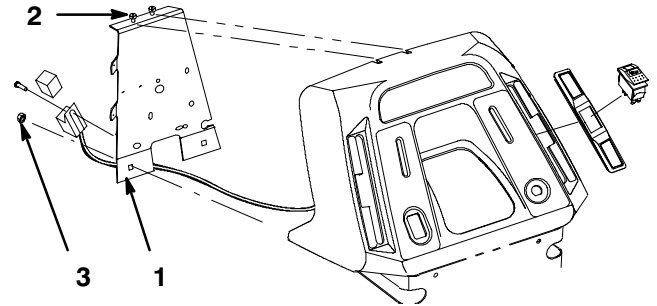

Figure 4
2. Loosen bolts holding control panel to tractor (Fig. 4).
3. Remove nutss holding control panel to tractor (Fig. 4).
4. Move control panel away from dash of tractor (Fig. 4).